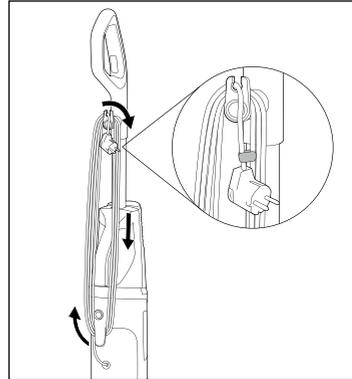

Fig. 44
- ◆ Wind the power cable **17** completely around both the upper and lower cable retainers **16/20** (see fig. 44).